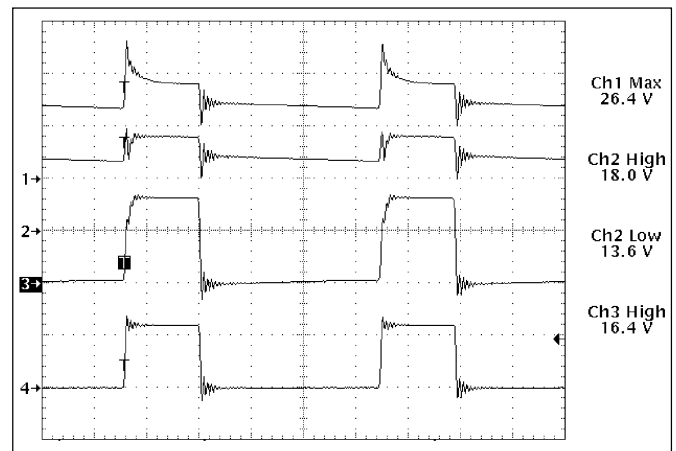

Figure 7:  $V_{CC2}$  Charge Pump Operation (1 $\mu$ s/div).
In order to fully turn on the high side NFET, a voltage greater than the input voltage must be applied to  $V_{CC2}$  to bias the GATE(H) driver. Referring to the application diagram on page 1; a simple charge pump circuit can be implemented for this purpose through capacitor C6, resistor R1, and diodes D1 and D2. The input voltage, less the drop in D1 is stored in C6 during the off-time period. When the high-side FET turns on, it drives the inductor switching node and C6 high causing schottky diode D1 to reverse bias. The charge stored in C6 is transferred to  $V_{CC2}$  through R1. Zener diode D2 clamps the  $V_{CC2}$  voltage to 18V to prevent the  $V_{CC2}$  from exceeding its 20V Max rating (see Figure 7).